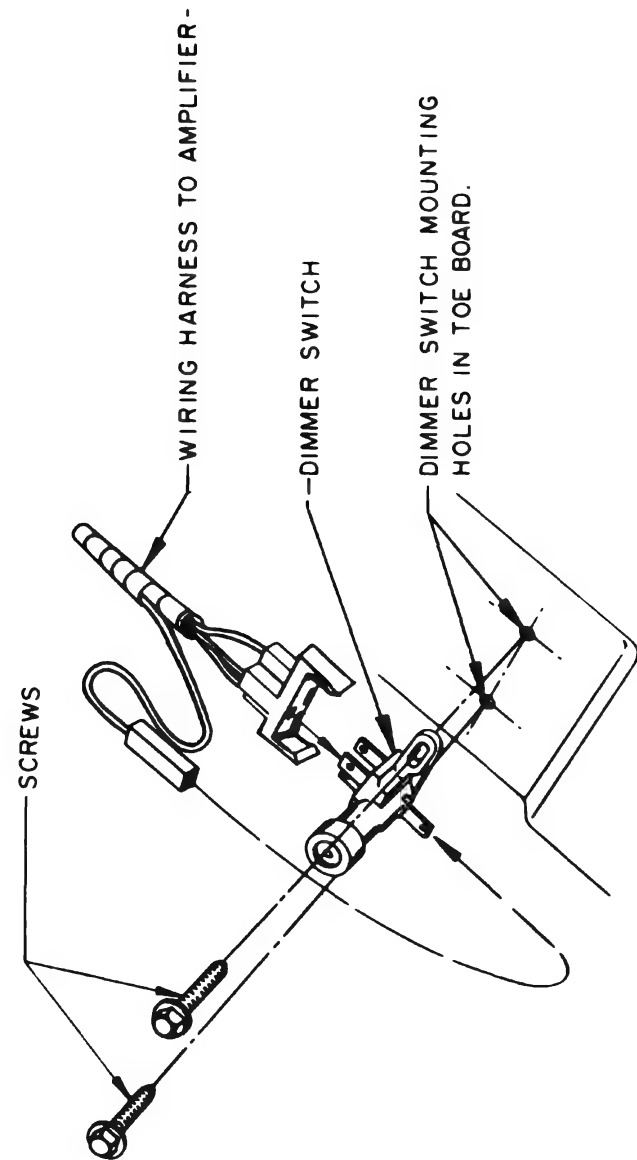

Figure 11-165—Phototube and Dimmer Switch Installation
(b) Remove the Phillips head pivot pin from right side of phototube unit base, then lift the unit off the base and remove phototube unit and harness. See Figure 11-165.
(1) Rotate amplifier dim control completely counterclockwise. See Figure 11-165.
(2) Momentarily turn DIM-HOLD switch to HOLD then back to DIM position to obtain upper beam. See Figure 11-165.
(3) Adjust tester INTENSITY CONTROL until meter pointer is at DIM ADJ. line. See Figure 11-165.
(4) Slowly rotate amplifier dim control clockwise just to point where headlamps switch to lower beam. Do not go beyond this setting.
(5) Recheck sensitivity as shown in Steps (1) through (3) under Dim Sensitivity Test. If sensitivity is not correct, repeat adjustment procedure.
(6) If adjustment is correct, turn off headlamps and disconnect Kent-Moore tester.
(7) Remove tester lamp from the phototube unit.